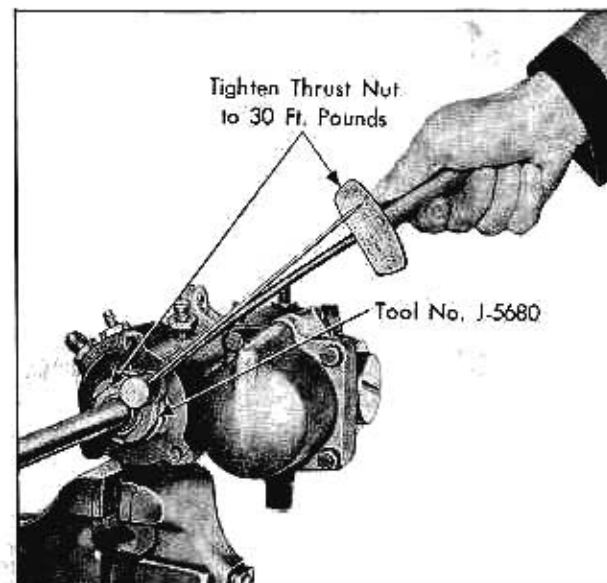

Fig. 7-32 Tightening Thrust Bearing Nut
7. Tighten nut to 30 ft. lbs. torque, while holding shaft stationary with steering wheel, Fig. 7-32, then back nut off 1/4 turn. Stake nut in place at keyway.